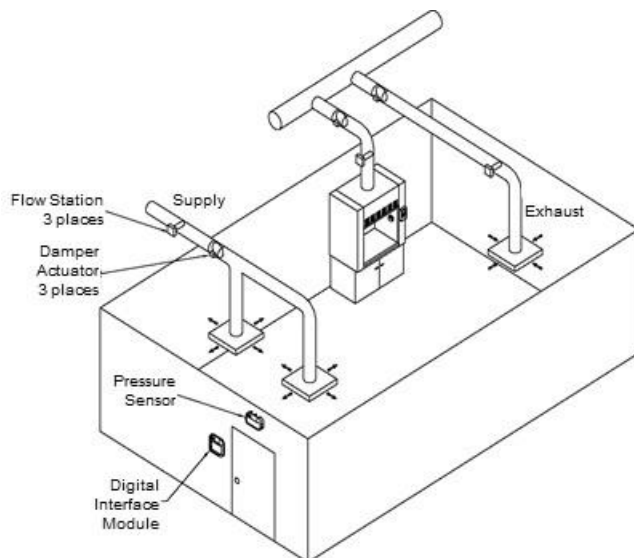

Figure 1: Typical Laboratory Installation
Figure 1 provides an overview of the various components installed. The order the components are installed is not important. The building prints will define the location of the dampers, flow stations, and pressure sensor. If no location is defined, these instructions show “typical” installation locations.
1. Select the mounting location of the Digital Interface Module (DIM). The construction plans normally show the mounting location. If no location is specified, then the unit is typically installed as shown in Figure 1, either in the laboratory or in the hallway.